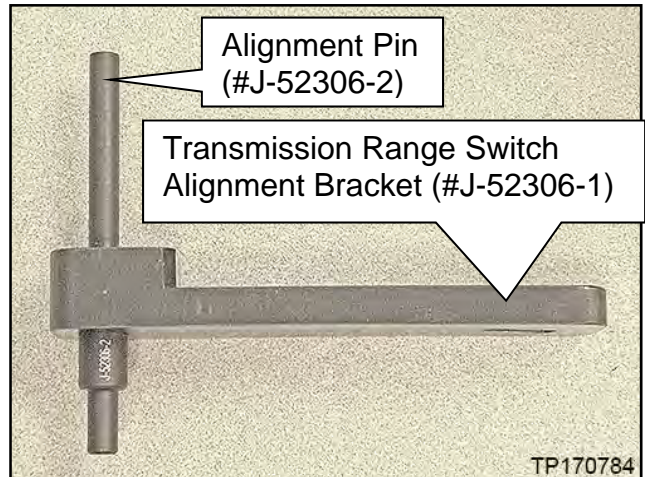

Figure 213
a. Install the alignment pin (#J-52306-2) into the Transmission Range Switch Alignment Bracket (#J-52306-1) as shown in Figure 213.